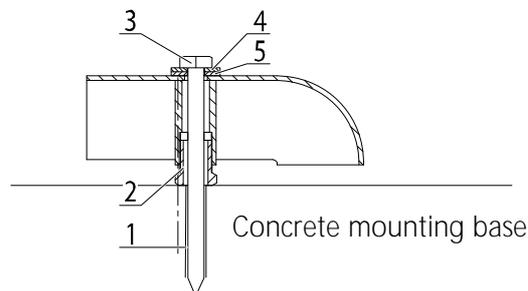

Fig. 9: Fasteners
5. Use the washers and screws (supplied) to pre-assemble the CHM 15k (see Fig. 9) so it is preliminarily fixed on its concrete base.